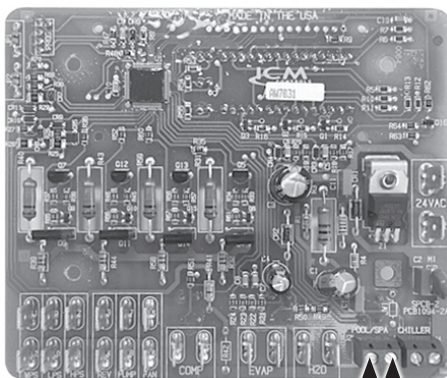

Fig. 6
4. Connect remote system with 2 wires to the POOL/SPA terminal on control board. Figure 6 shows you where to connect the 2 wire remote systems to the temperature controller.